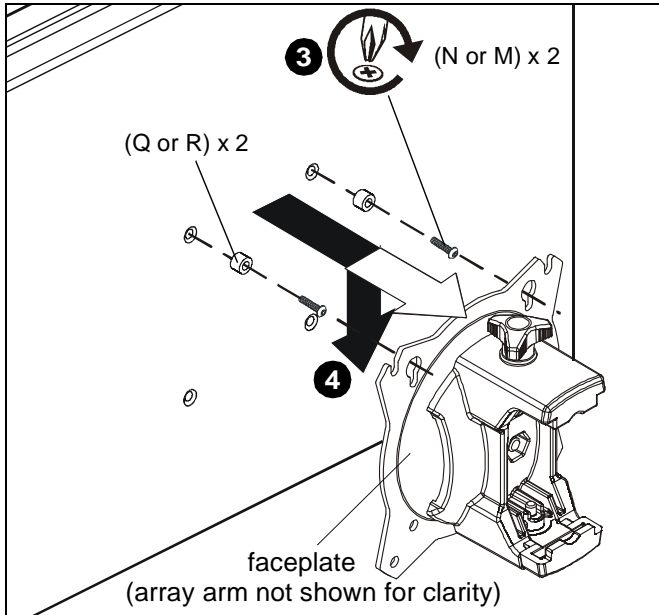

Figure 7
3. Using Phillips screwdriver, carefully install two selected screws (N or M) through selected spacers (Q or R) into the *upper* mounting holes on the display. Thread screws completely into display, then back out 3 complete turns. (See Figure 7)
4. Pick up and align display so that screws (N or M) (installed on the back of the display in the previous step) fit into the mounting holes on the faceplate. Lower the display firmly into place. (See Figure 7)